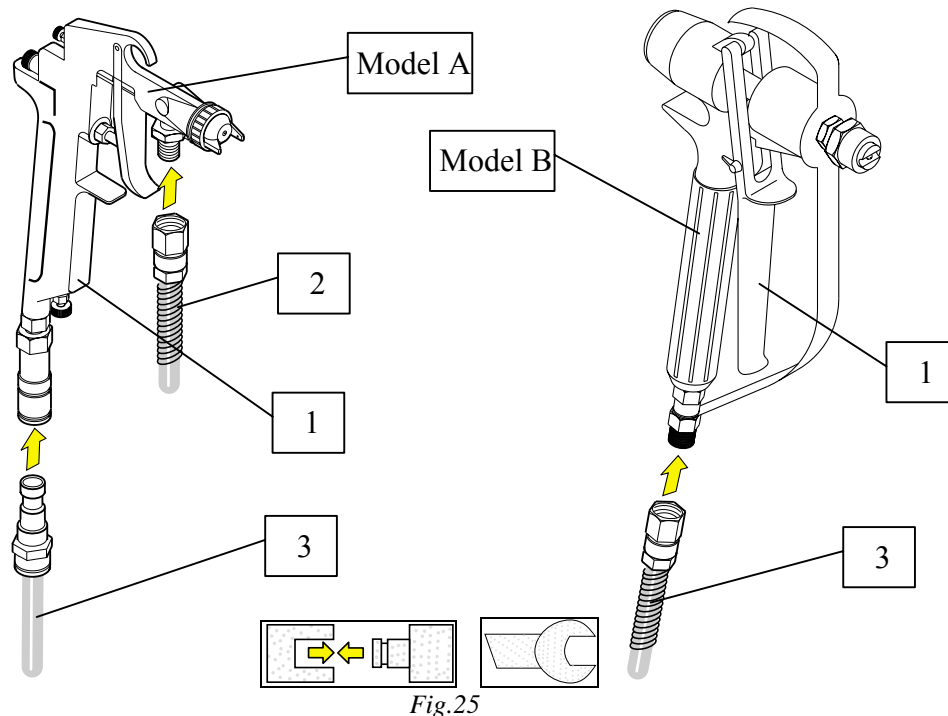

Fig.25
- 3) Mount the spray gun making sure that it is clean (fig.25).